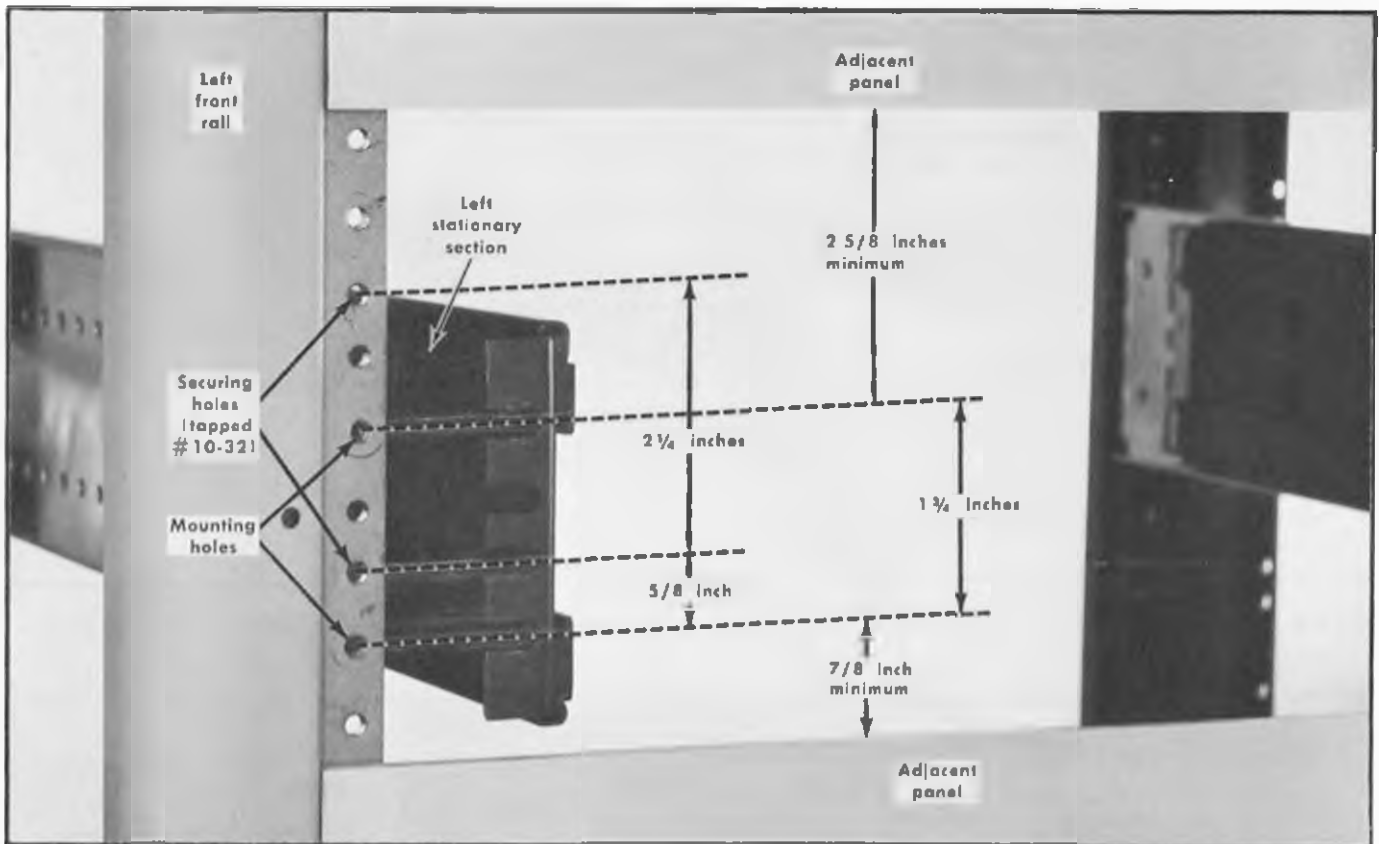

Fig. 7-6 Vertical mounting position of the stationary section. The same dimensions apply for mounting the right stationary section.
1. Select the proper front-rail mounting holes for the stationary sections using the measurements shown in Fig. 7-6.